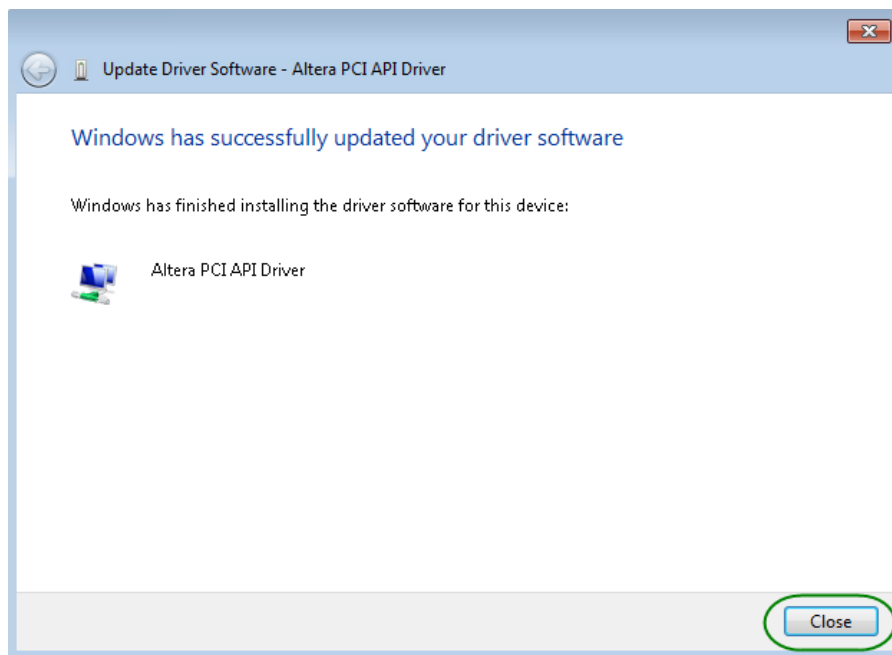

Figure 7-8 Click Close when the installation of Altera PCI API Driver is complete
11. When the driver is installed successfully, the successfully dialog will appear, as shown in **Figure 7-8**. Click the Close button.